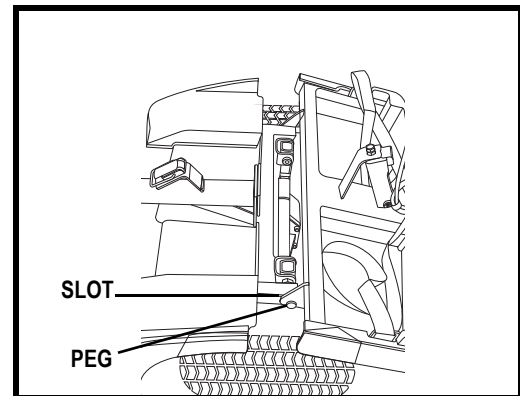

Figure 17. Separating The Frame Sections
3. Lift the front section up until the lower pegs are no longer in the slots. See figure 17.